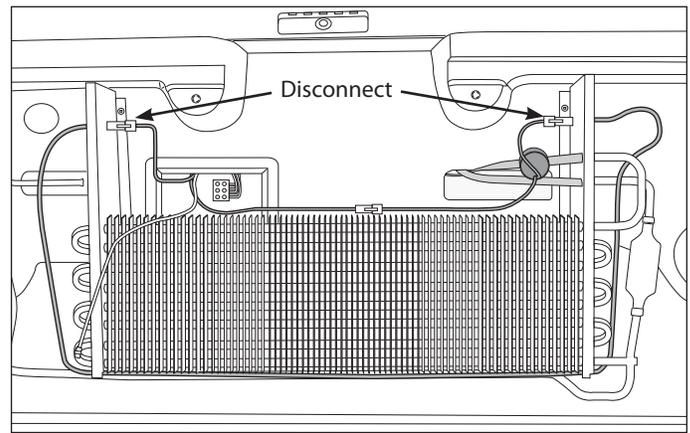

Figure 6-50.
6. Disconnect two leads to defrost heater. (See Figure 6-50)